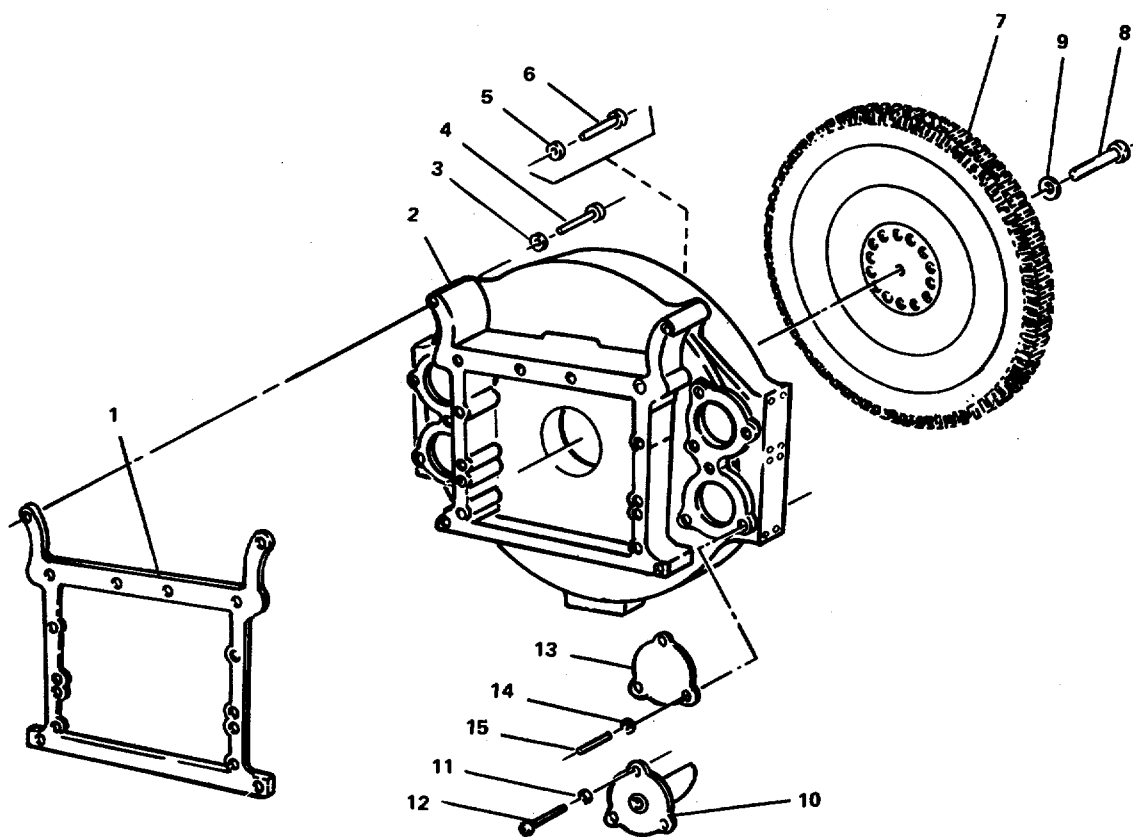
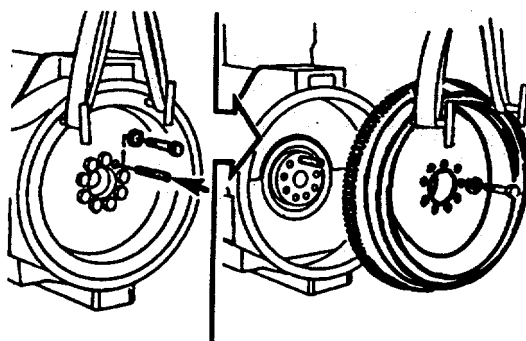
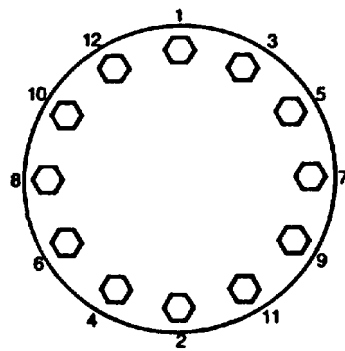

FIGURE 3-29. *Flywheel Housing Group.*
FIGURE 3-33. Flywheel Removal/Replacement.
FIGURE 3-34. Flywheel Bolt Tightening Sequence.
- a. Remove barring mechanism assembly (10, FIG. 3-29).
- (1) Remove three hexagon head capscrews (12) and lockwashers (11).
- (2) Remove barring mechanism assembly (10).
- b. Remove starter flange cover (13).
- f. Using a lifting sling, install the flywheel and gear ring assembly (7, FIG. 3-29) over the guide studs previously installed, aligning the dowel in the crankshaft with the dowel hole in the flywheel (FIG. 3-33).
- g. Lubricate machine bolt (8, FIG. 3-29) threads with clean engine lubricating oil. Lubricate hardened washer (9) faces with SAE 140W lubricant.
- h. Replace ten of twelve machine bolts (8) and lockwashers (9); tighten by hand, one and one-half turns.
- i. Remove the guide studs; install the remaining two bolts (8) and washers (7), and tighten one and one-half turns by hand.
- j. Tighten all of the bolts in the sequence as shown in FIG. 3-34. First tighten to 110 ft-lb (150 N•m), then advance to 210 ft-lb (285 N•m), and then apply final torque of 380 ft-lb (515 N•m).
- k. Place starter flange cover (13, FIG. 3-29) and retain with machine bolts (15) and lockwashers (14). Tighten to 45 ft-lb (60 N•m).
- l. Position barring mechanism (10) to the left side flywheel housing lower mounting pad.
- m. Install hexagon head capscrews (12) and lockwashers (11). Tighten to 135 ft-lb (185 N•m).